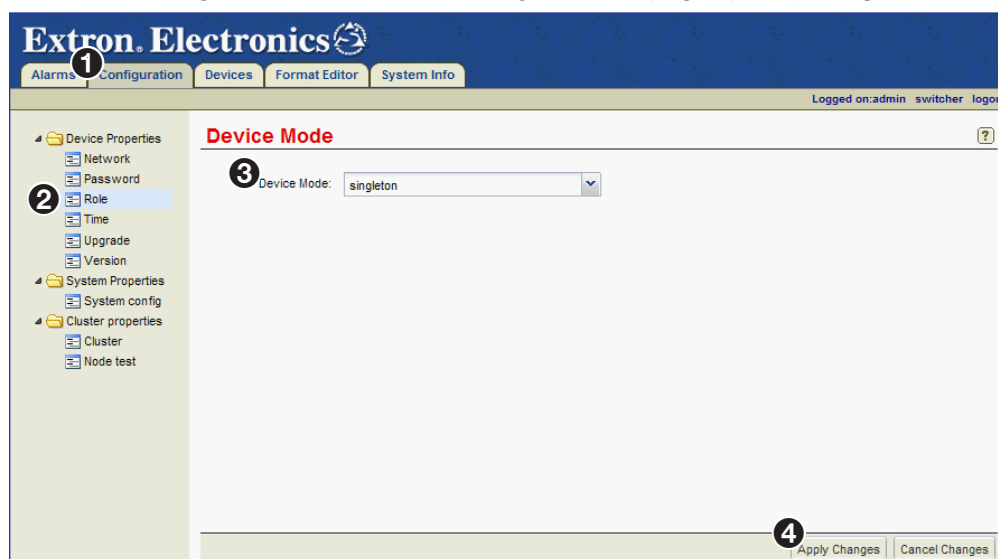

Figure 12. Configuration Page — Single VNM Enterprise Controller Role Setting
1. Click the **Configuration** tab. The **Configuration** page opens (see figure 12, ①).